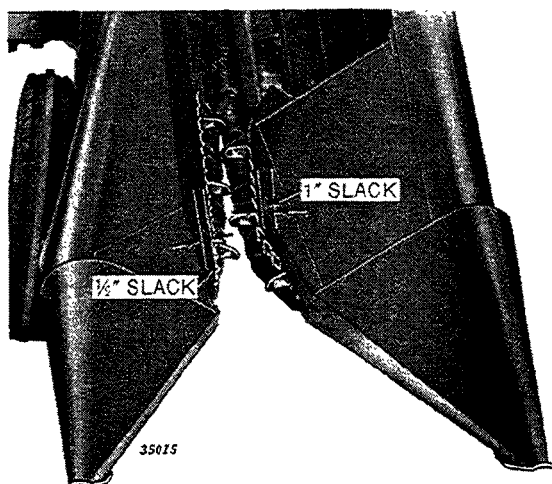
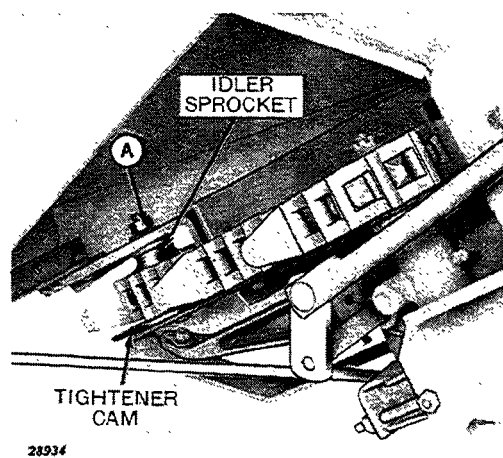

Figure 37—Gatherer Chain Tension
Figure 38—Tightener Sprocket and Cam
**Timing.** The gatherer chains are timed so the lugs of the outer chain are spaced midway between the lugs of the inner chain. See Figure 37. *NOTE:* When a link of chain is removed, the gatherer lugs will no longer run in time. Operation may be continued but for best results the gatherer lugs should be in time.
**Gatherer Chain Adjustment.** Each gatherer chain is adjusted at the front idler sprocket, Figure 38. Loosen nut "A" on bolt through idler sprocket and move cam, Figure 38, until proper tension is obtained and then retighten nut. Tension is proper when there is approximately 1" of slack on the inner chain and 1/2" of slack in the outer chain at a point midway along the guide plate, Figure 37.